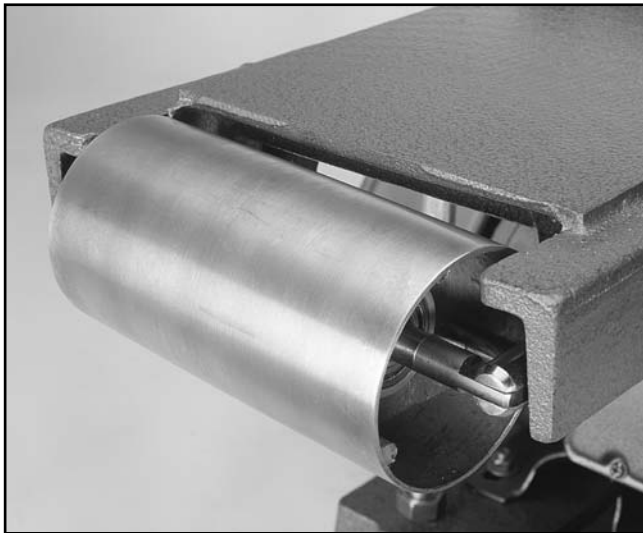

Figure 6.
3. Install the Idler Roller by sliding its flat-ended axles into the slotted ends of the roller Adjustment Bars. **Figure 6.**